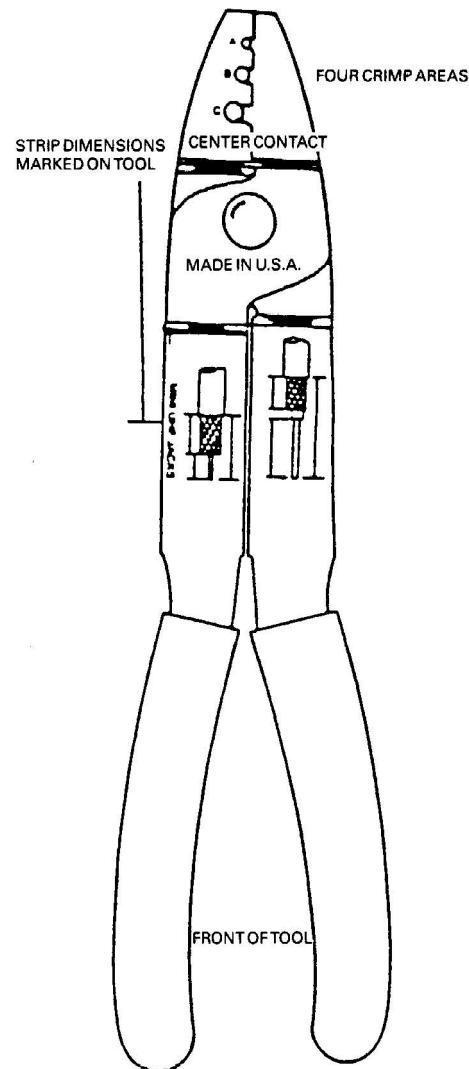
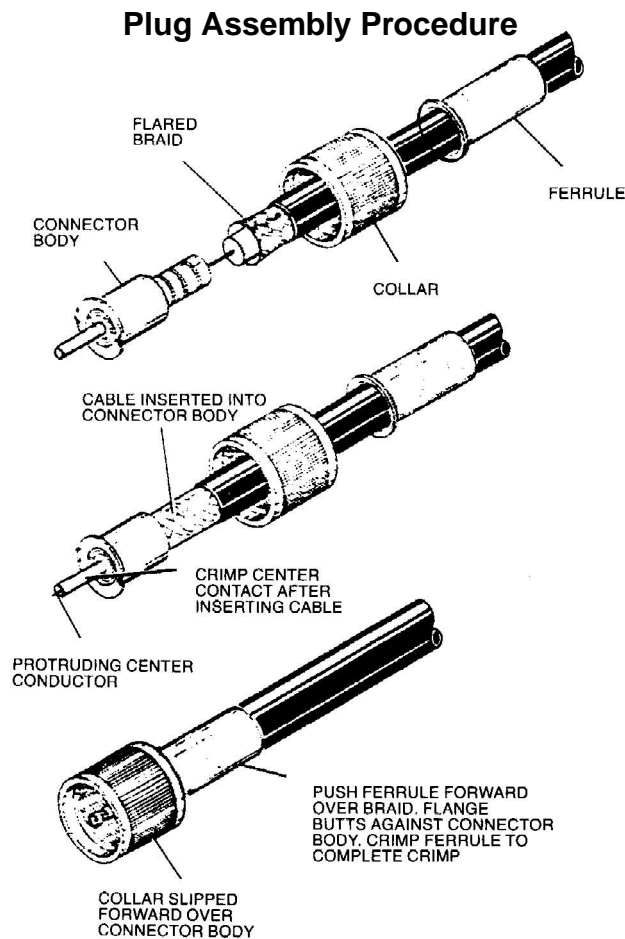

Figure 12.
Figure 13. Plug Assembly Procedure
Use Motorola hand tool part #66-80388A26 (Refer to Figure 12). A deluxe ratchet type tool is available; order part #66-80334B40.
1. Slip ferrule and collar onto cable. Refer to Figure 13.
3. Insert stripped cable into plug body until conductor is exposed (front end) and dielectric bottoms inside body. Refer to Figure 13.
4. Crimp center contact using proper crimp section of tool. Refer to Figure 12 marked "CENTER CONTACT."
5. Push collar forward onto plug assembly. Fit cable braid over the support sleeve of the connector. Refer to Figure 13.
6. Push ferrule over braid until flange butts against connector body. Refer to Figure 13. Using the correct crimp area of the tool, crimp the ferrule close to the plug body. See Figure 12, crimp location "C." Crimp ferrule a second time close to the cable end.